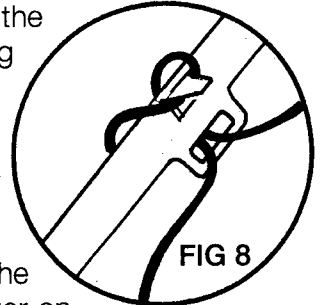

FIG 8
7. To reduce the possibility of the extension cord disconnecting from the unit during operation, loop the extension cord to the extension cord anchor as shown (Fig. 8).